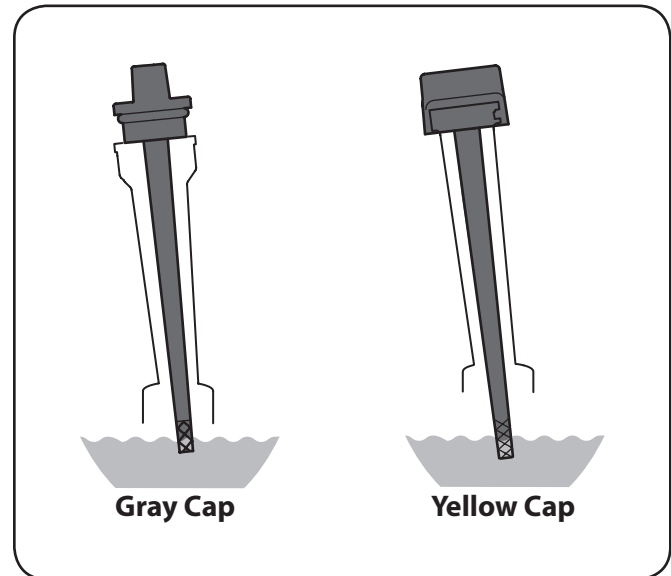

Figure 6-2
4. Refill with the recommended oil and check the oil level. See Fig. 6-2. Refer to the Set-Up Section and follow the appropriate instructions for a gray or yellow oil fill cap.